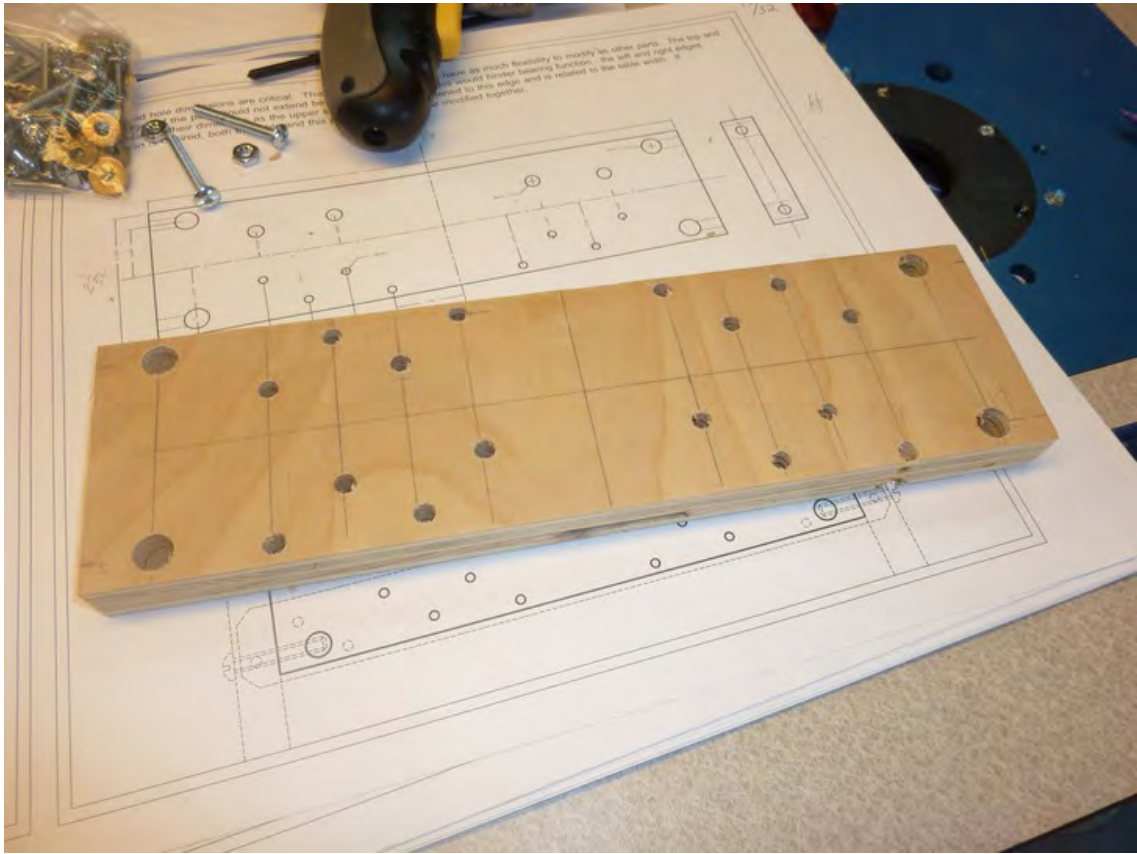

Figure 7-8. Part H with the bracket holes drilled
Use a transfer punch or sharp bit to mark the eight holes to be drilled to hold the second Strong-Tie to Part H. You can choose to drill these holes at $5/32$ " if you are confident in the accuracy of your marks or, if you're like us, you can drill the holes for the second bracket slightly larger. These larger holes can be either $5/16$ " (as shown in the plans) or at $15/64$ " (as we chose to do). Figure 7-8 shows these holes drilled into Part H.
■ **Note** Figure 7-8 shows more holes than the plans call for. The extra holes are due to a mistake I made in drilling the part. The extra holes won't hurt anything, so I used the part as I drilled it.